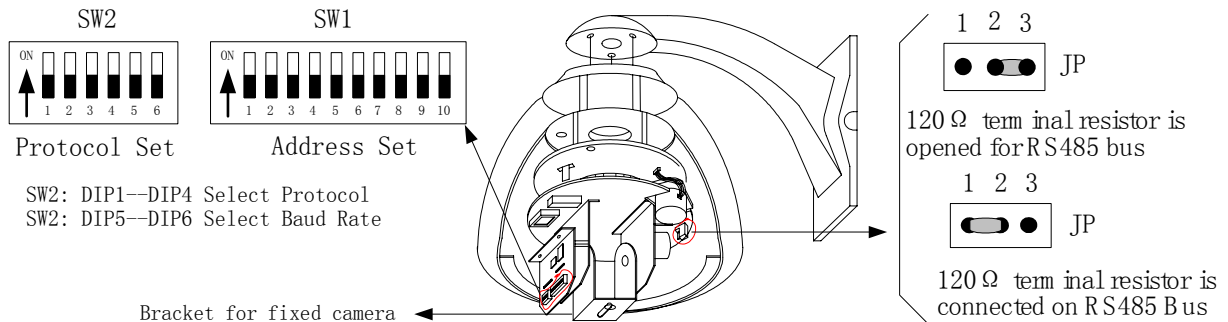

Figure 2
2. Setup of Coding Switch of Dome Camera. As shown in Figure 2, SW1 is used to set address of the dome camera from 1 – 1023. The ID-CODE from DIP-10 to DIP-1 are equivalent to a 10-bit binary digit. DIP-10 is MSB while DIP-1 is LSB. The state “ON” of each bit means 1 while “OFF” means 0. Following table shows states of coding switches of some addresses.
- 3. Setup of the Protocol and the Default Baud Rate.** As shown in Figure 2, SW2 is used to set the protocol of communication and the baud rate used by the dome camera. DIP-4 to DIP-1 of SW2 is used to select protocols and 16 different protocols can be selected in maximum. Following table shows states of coding switches of protocols selected by the dome camera in which ● means the protocol has been integrated while ○ means the protocol is temporarily vacant.
- 4. Setup of the Baud Rate of Communication.** As shown in Figure 2, SW2 is used to set the protocol of communication and the baud rate used by the dome camera. DIP-6 and DIP-5 of SW2 are used to select the baud rate of communication and 4 different baud rates can be selected in maximum. If the controller adopts non-standard baud rate, you can adjust it to be identical with that of the controller as per the following table.
- 5. Selection of the Terminal Resistor of the Dome Camera.** As shown in Figure 2, JP is the select switch of the 120 Ω terminal resistor on the bus RS485, on which only one terminal resistor of the dome camera at the farthest end can be connected, while the terminal resistors of other devices should be opened.